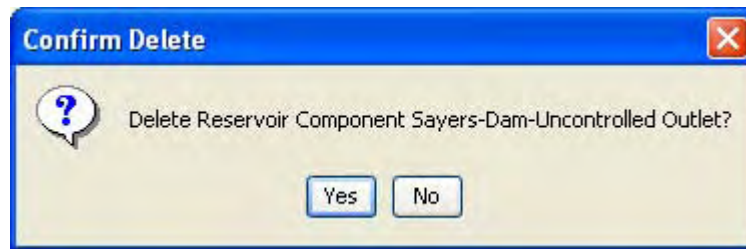

Figure 10.25 Confirm Deletion of Reservoir Component
3. A confirmation window will appear (Figure 10.25). Click **Yes** to verify the deletion.